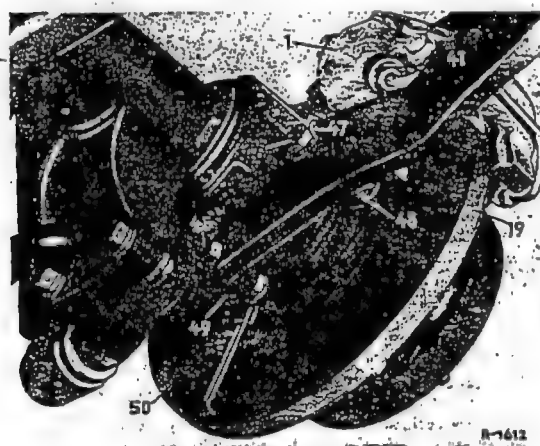

Fig. 42-7/24
5. Fit the brake caliper (1) to the bearing housing (41) and install the shims (2) between bearing housing and the fixing eyes of the caliper in the same way as before (Fig. 42-7/25).
6. Put new locking plates (47) on the hexagon fitting screws (46) and start by screwing in the top fitting screw. At the same time press in the bracket (48) with the welded-on nuts against the fitting screw (Figs. 42-7/23 and 42-7/24).